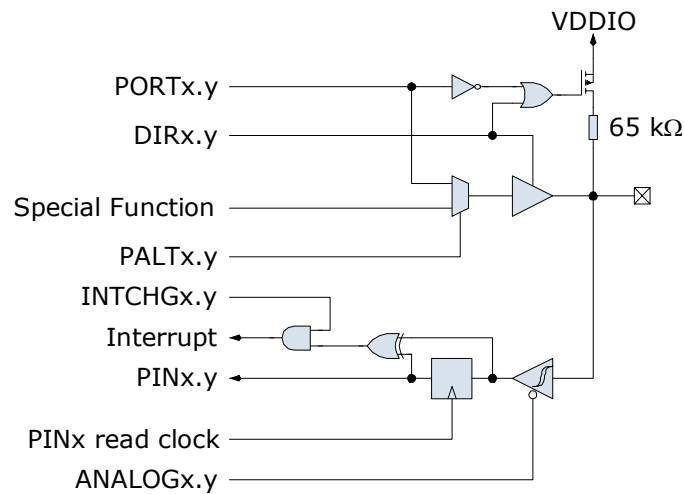

Figure 10: Port pin schematic
Figure 10 shows the GPIO logic. The **DIR** register bit determines whether the port pin acts as an output (1) or an input (0).